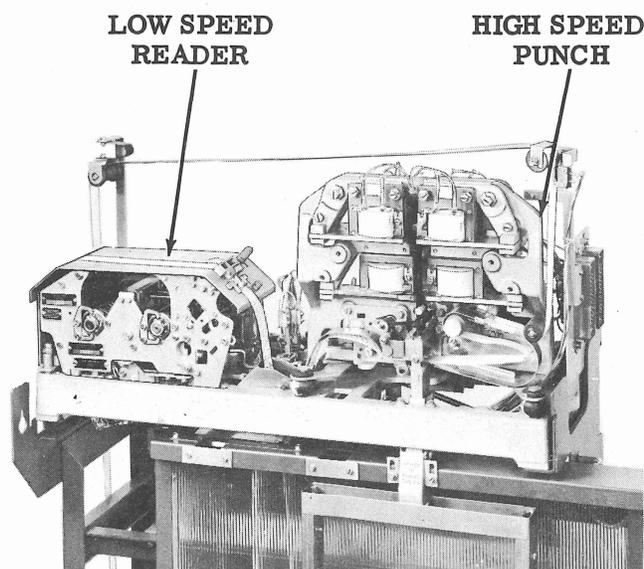

Figure 19 - High-to-Low Punch-Reader Assembly
11. INSTALLATION OF H/L AND L/H PUNCH-READER ASSEMBLIES (Figures 19 and 20)